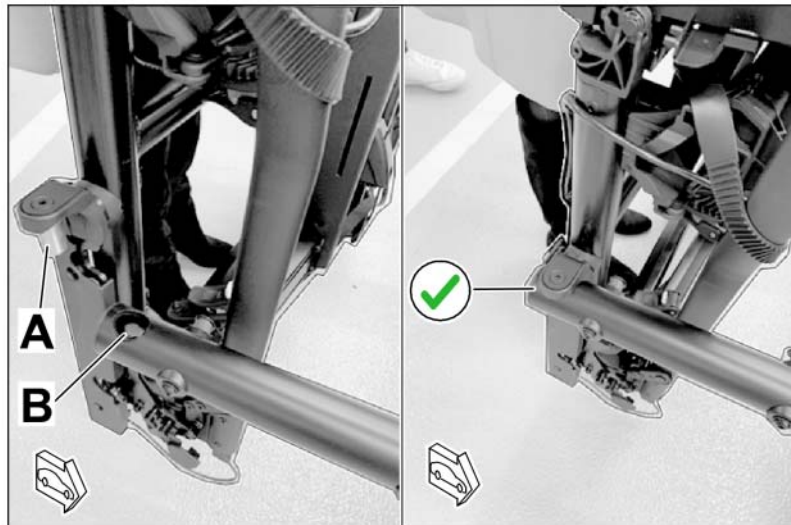

Figure 6
6. – Position the bike carrier as shown so that the Porsche logo is legible and insert guide pins ⇒ *Figure 6 -LHD vehicle -* into the guides for the fastening tubes ⇒ *Figure 6 -RHD vehicle -* on both sides.